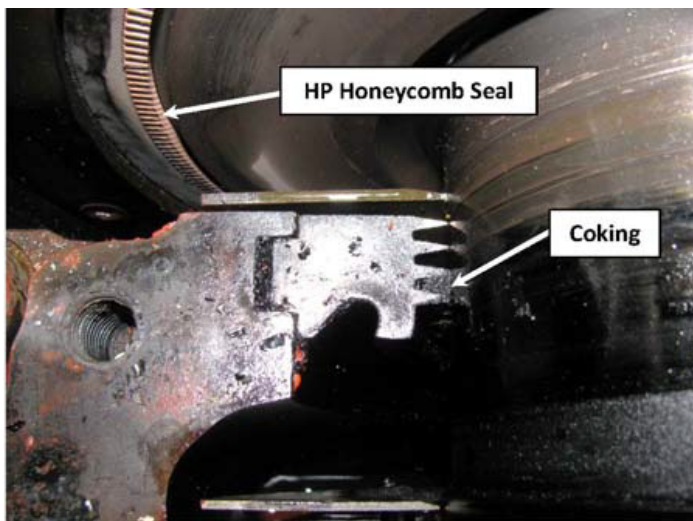

Figure 1
One of our customers has been experiencing chronic vibration on the thrust bearing (inlet) end of their Ingersoll-Rand E-520 tail gas expander. Inspection of the bearing housing area during a recent shutdown revealed severe coking of the bearing housing end seal, as shown in the Figure 1. It is not unusual for this area to run extremely hot, as it is adjacent to the high pressure (HP) casing seal, which can be prone to wear and excessive leakage. The HP seal is a long stepped honeycomb style with extremely tight design clearances, and tends to rub and wear over time. As the seal wears, 1200 degF inlet gas will leak past the seal and impinge directly on the end of the thrust bearing housing. The honeycomb seal can be seen in the figure.